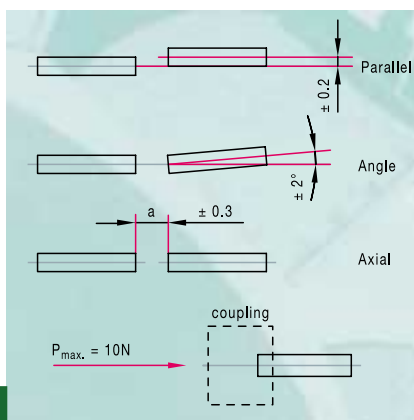

Figure 28: Parallel, angular and axial displacement should be as small as possible.
- **Parallel, angular and axial displacement** (shaft offset, alignment error) are to be kept as small as possible in the interests of high transmission precision (↻ Figure 28). The version with an insulated hub is to provide protection against **shaft currents**.